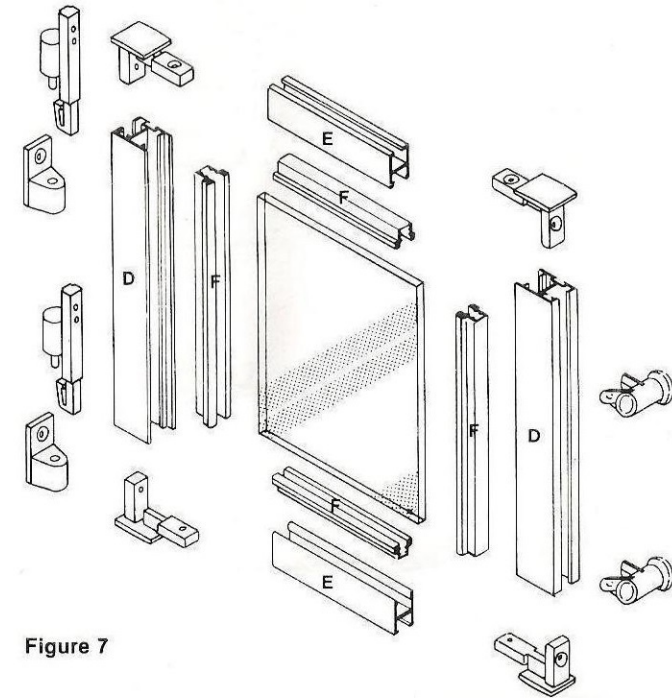
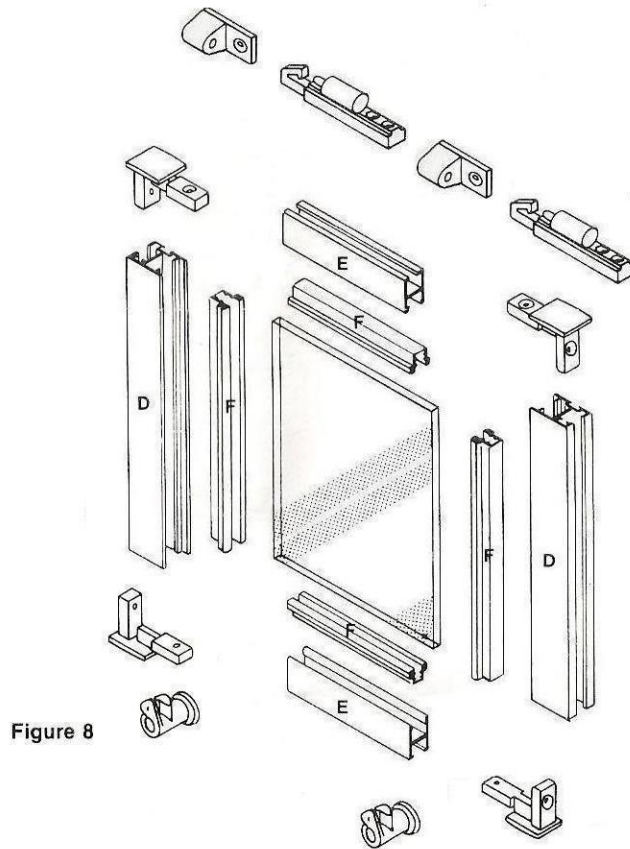
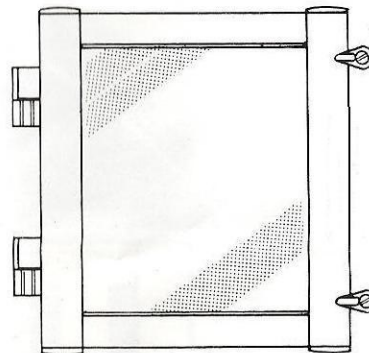

Figure 7
Figure 8
Figure 13
a) Side hinged (Figure 7)
b) Top hinged (Figure 8)
b) Now take a length of Section D. Insert hinge posts in Section D or E as appropriate (See Figure 7 or 8) ensuring that they point in the correct direction. Insert a corner piece in each end of Section D then guide the corner piece arms into the ends of Section E (See Figure 9). Ensure the seals in all sections face the same way.
NOTE: In the case of side hinged panes in the final position of the countersunk hole is always uppermost. In the case of top hinged panes, the final position will be to the left or right, depending on the direction of the hinge post (Figure 12 is based on the leftwards facing post shown in Figure 8).
6.1 The turncatches locate in Sections D or E opposite the hinges (Figure 7 or 8). Holding the pane closed, position them as shown in Figure 13.
It is best to lay the pane out flat and provisionally position the accessories, as shown in Figure 7 (side hinged) or Figure 8 (top hinged).